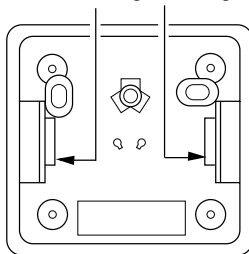

Figure 33 - Back View of Thermostat Base
6. Feed the electrical wires through the rectangular slots on each side of the base (see Figure 33).